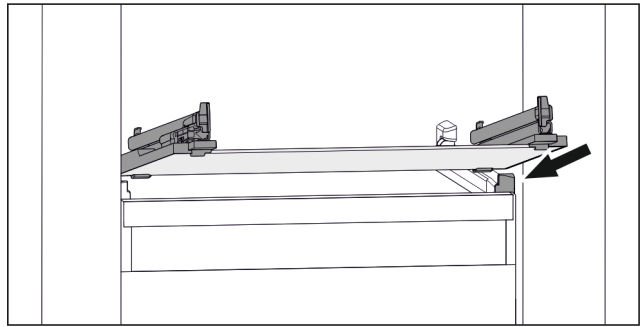

Fig. 141 Example illustration of glass shelf
- ▶ Position glass shelf at an angle behind the stoppers. (see *Fig. 141*)